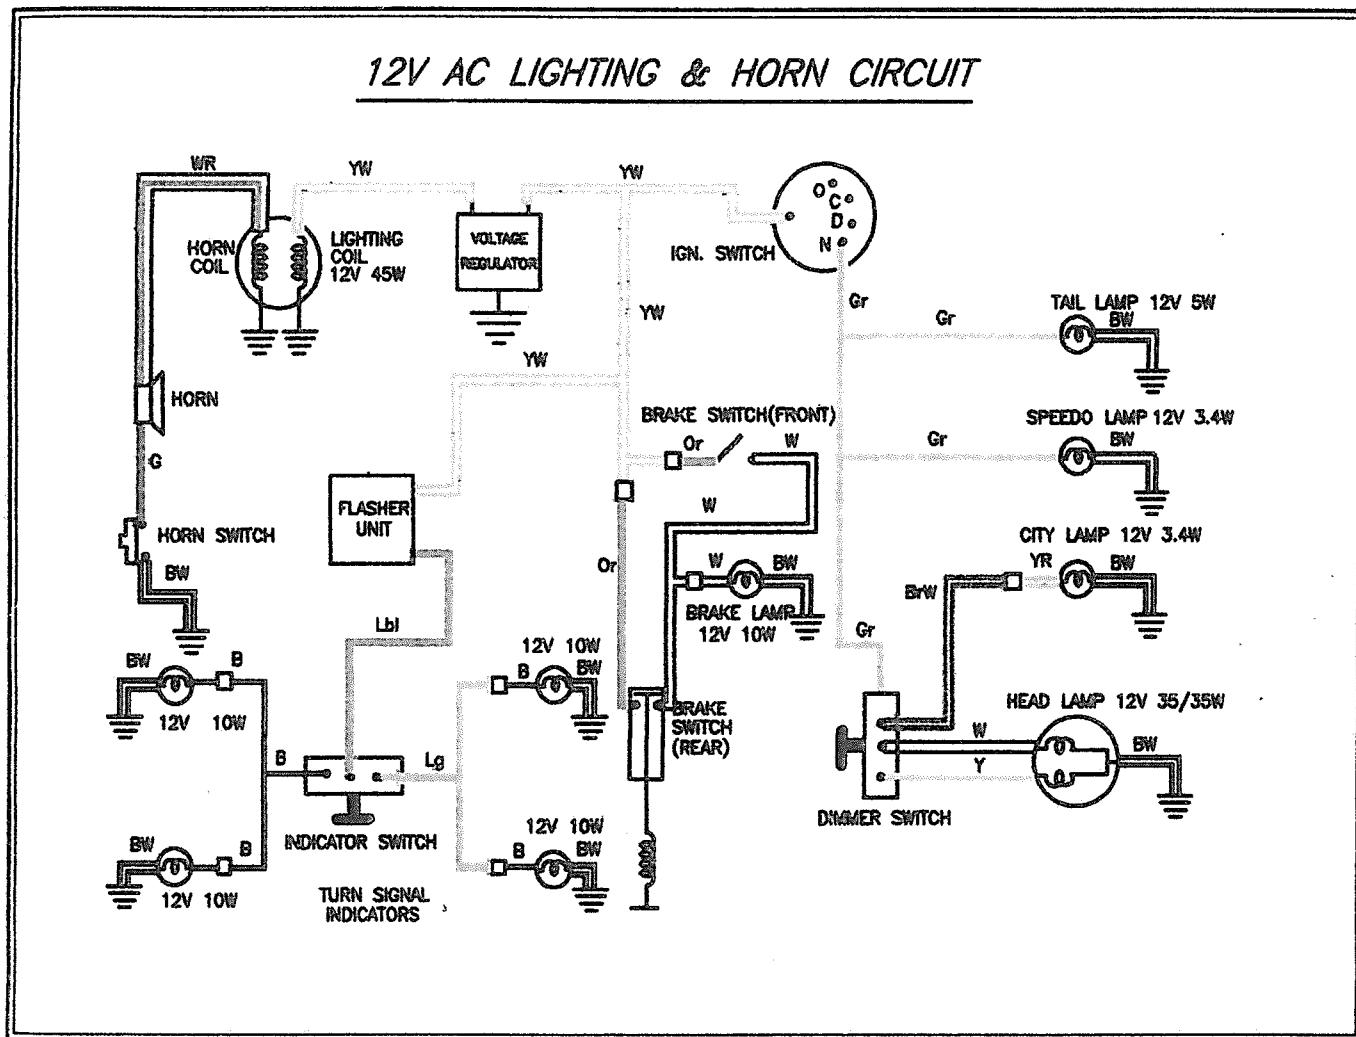

Fig 5.12
The regulator maintains the output voltage to a constant irrespective of changes of speed and load. This function is achieved by bypassing the output of the magneto during a fraction of a cycle when the voltage exceeds a predetermined value (14 ± 1 Volt). Once this value is exceeded, the control circuit applies a pulse to the gate of the Silicon Controlled Rectifier (SCR) which bypasses the output of the lighting coil of the magneto thereby limiting the output to within limits (fig 5.12).
The lighting, horn and ignition systems use the flywheel magneto as shown in (fig 5.12). Alternating Current (AC) generated in the lighting coil is regulated by the electronic regulator and powers the head lamp, tail lamp, city lamp, meter lamp and brake lamp. The horn is powered by a separate magneto coil which output is matched to the horn coil. The source coil output is fed into CDI/Ignition coil system to provide the necessary